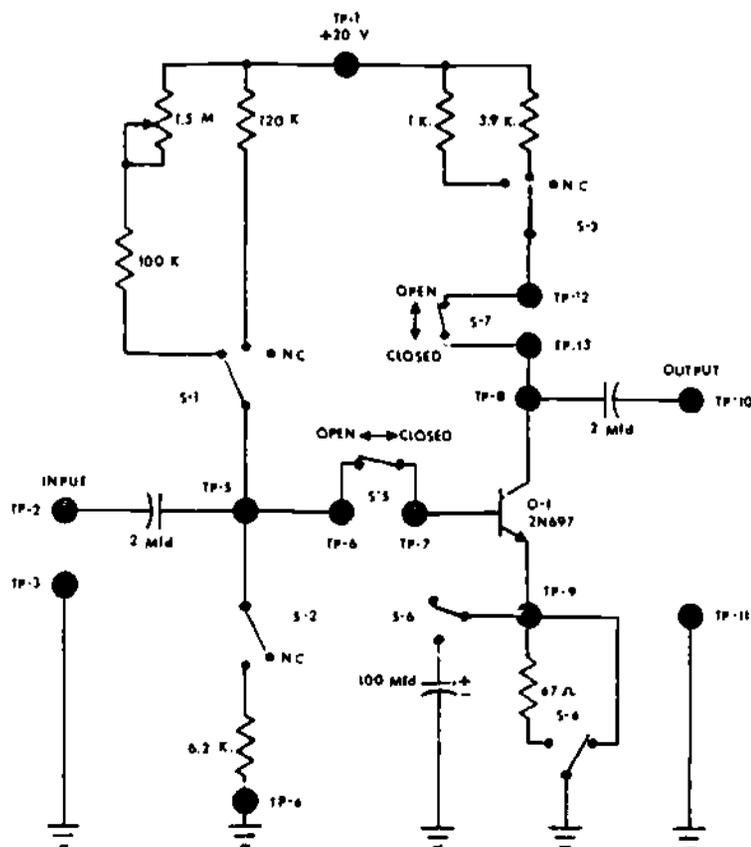

Figure 31-7. Transistor Voltage Amplifier
1. **Trainer Analysis:** The transistor voltage amplifier trainer is extremely versatile and can be used to determine many characteristics of a transistor amplifier. The first thing to do is become thoroughly familiar with the trainer shown in figure 31-7. Locate the following trainer functions and components:
b. Preset the switches on the transistor voltage amplifier trainer to select the circuit shown in figure 31-7.
(1) Select the 1.5 M ohm variable biasing resistor using switch S1.
(2) Rotate switch, S2, to the open position (NC).
(3) Select the 3.9 k ohm collector load resistor using switch S3.
(4) Select ground on the emitter lead using S4 (move right).
(5) Plug the trainer into a 110 VAC bench outlet.